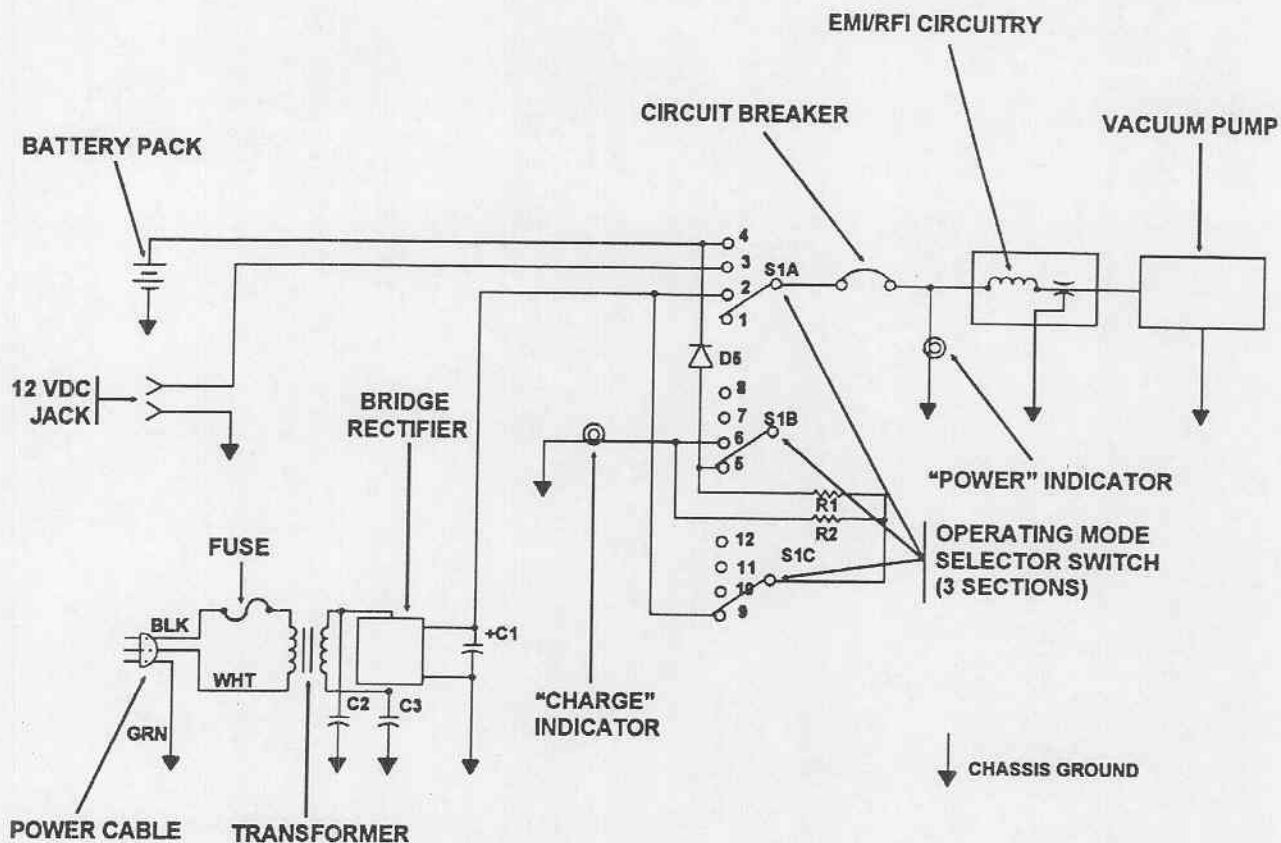

Figure 3-5. Schematic diagram.
- a. The schematic diagram for the suction apparatus is provided in figure 3-5 to assist you when troubleshooting. Isolate the problem to a functional segment of the circuitry.